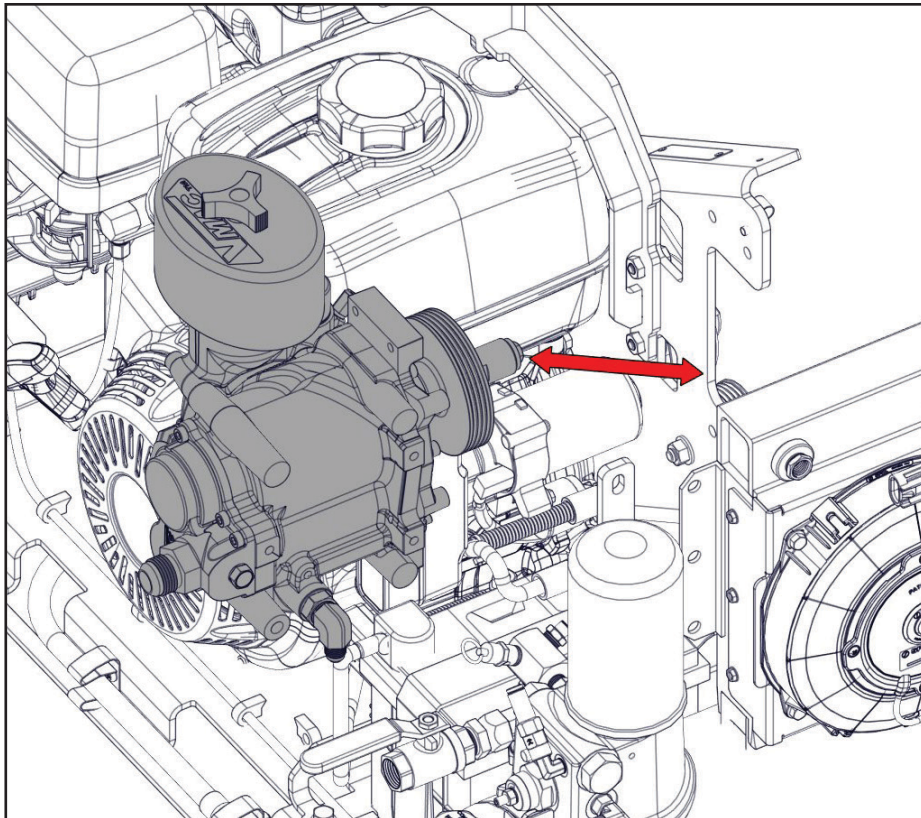

Figure 76 — Remove compressor
- Lift the compressor up and away from the belt guard to remove it (Figure 76).